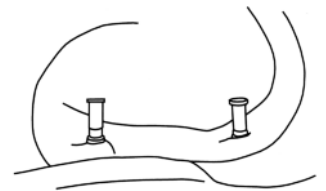

Fig. 3
3. Leaving the nylon handle in each of the placed abutments, visually assess the alignment of the handles (Fig. 3). Ideally, they should be within 5° of each other and also within 5° of the desired path of insertion.